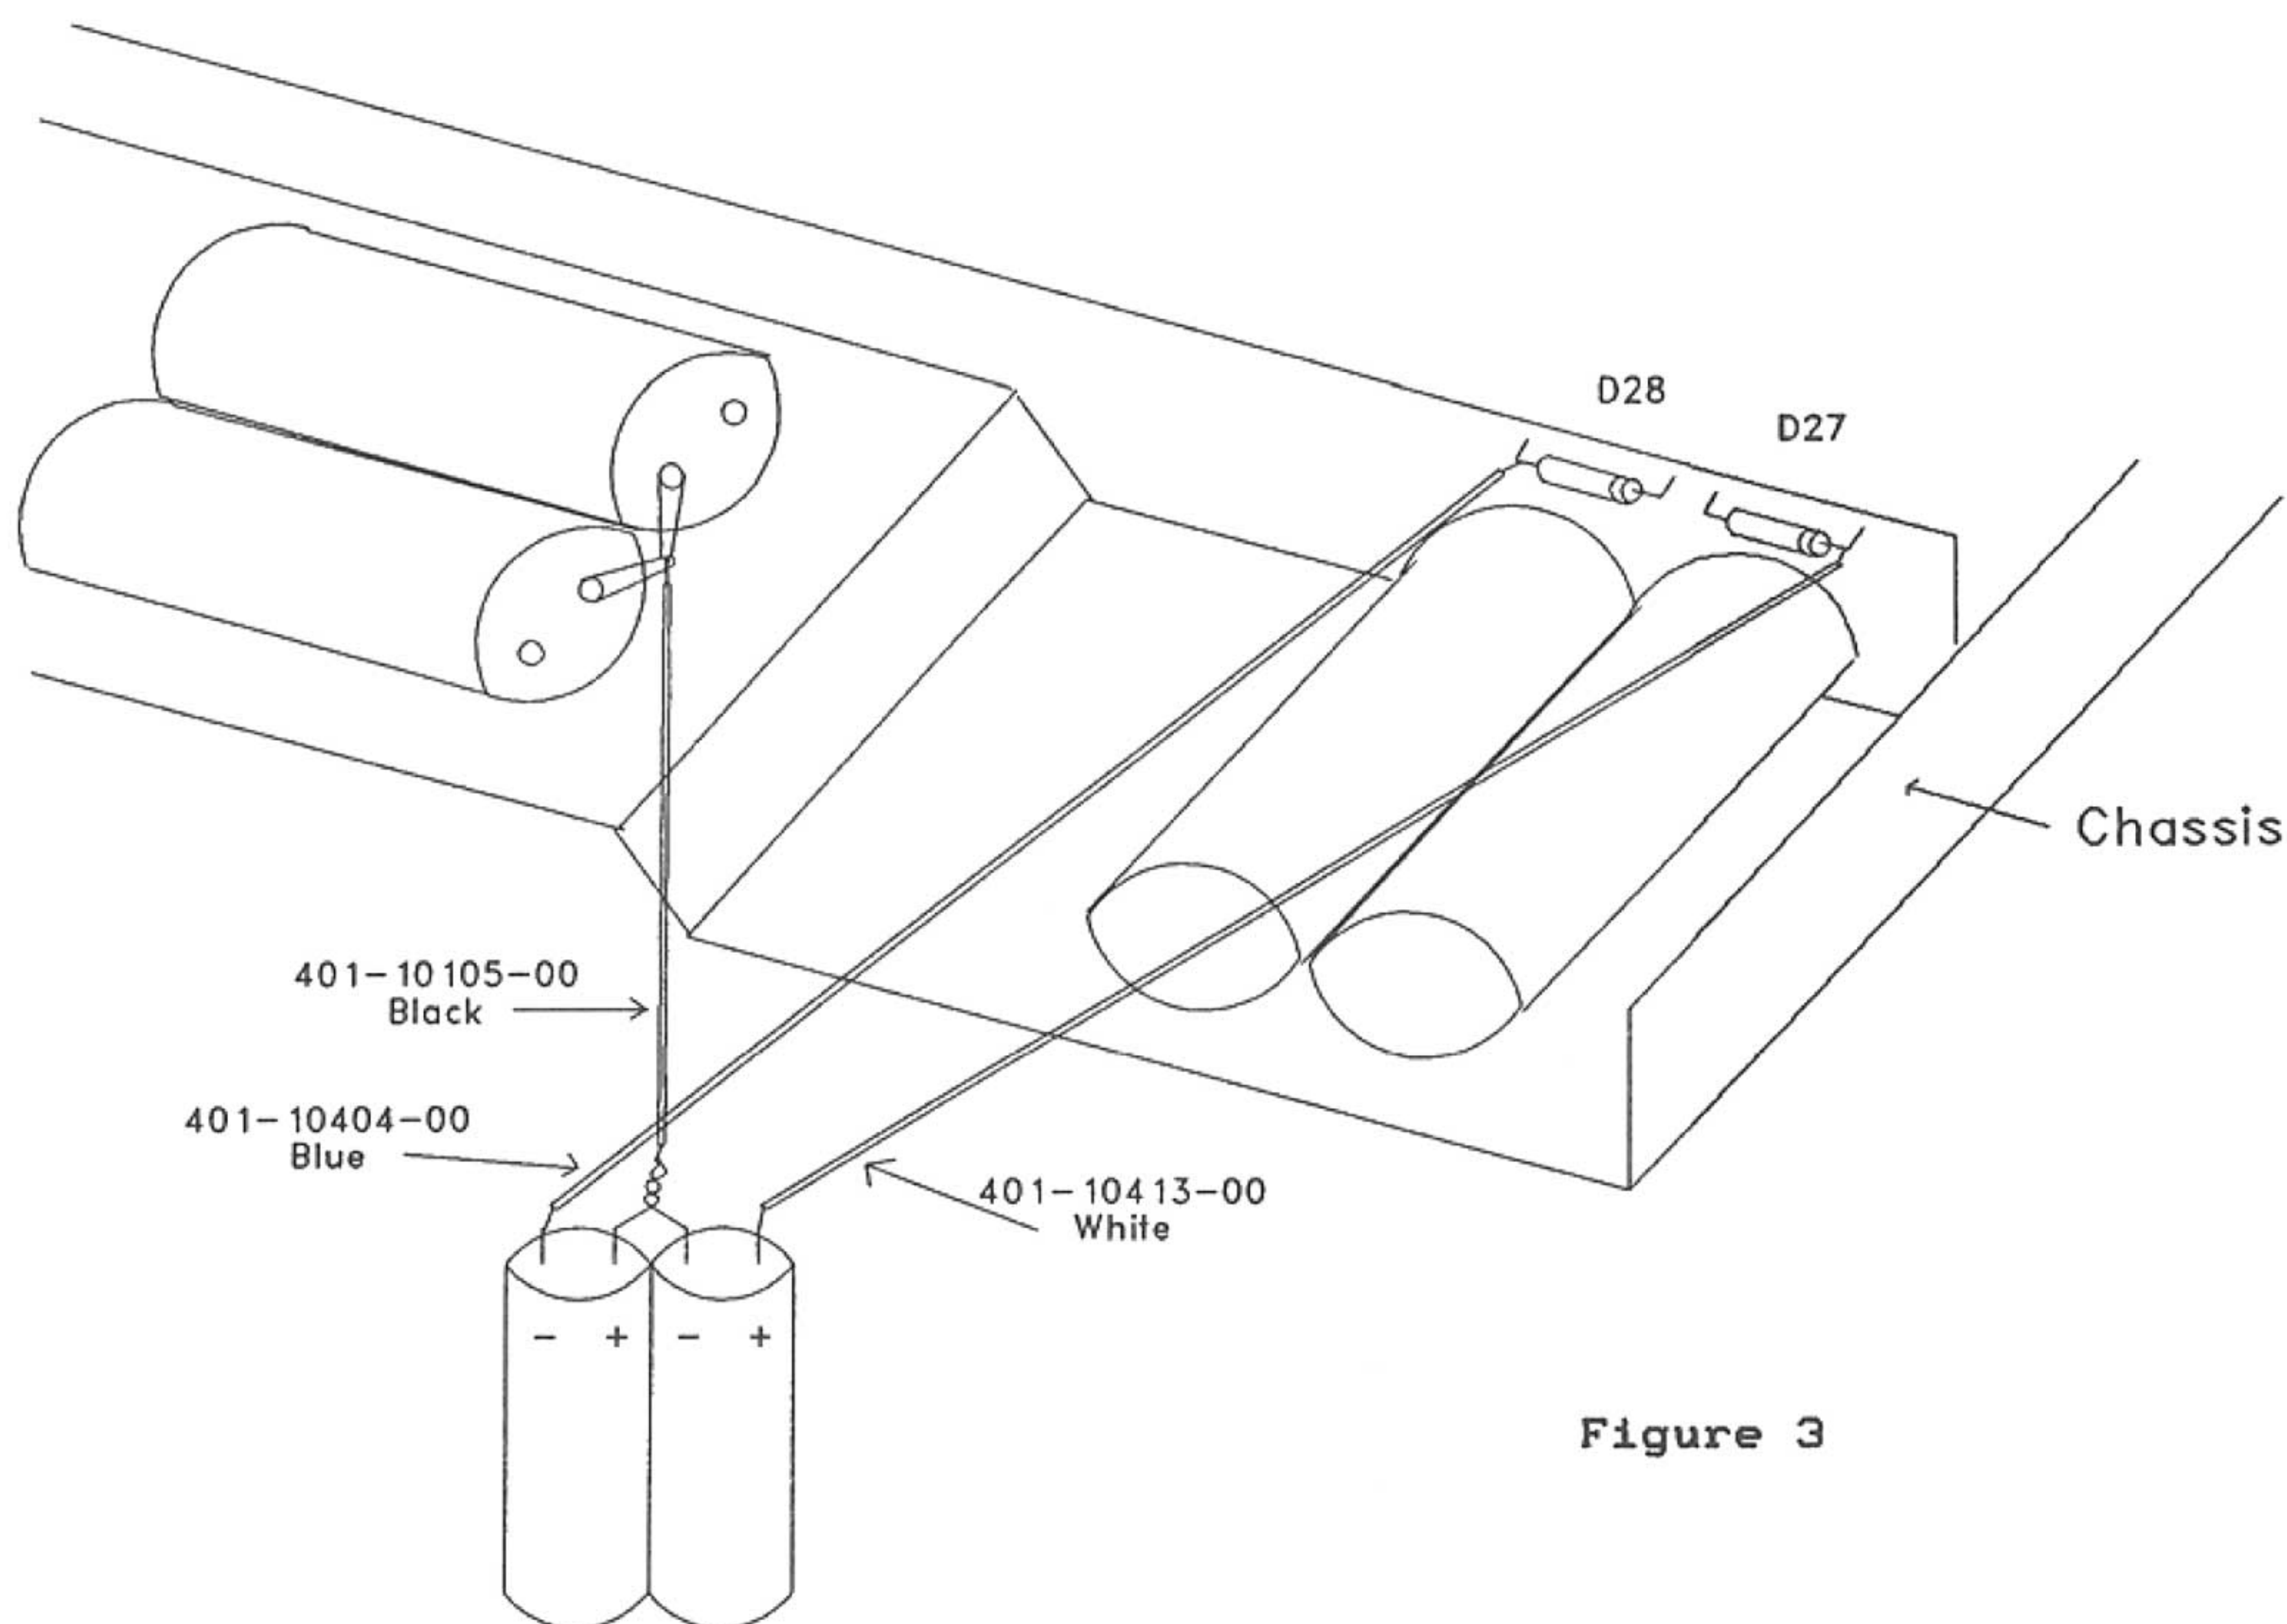

Figure 3
- 3) Remove the input board and make the following connections as shown in Figure 3: